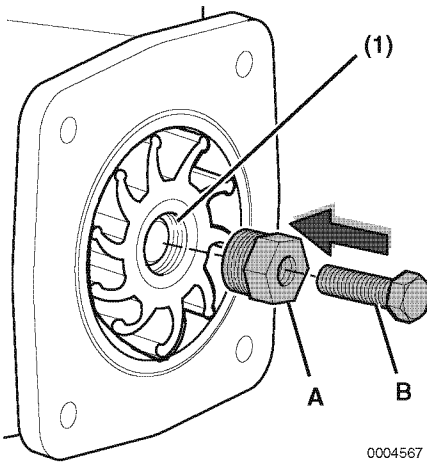
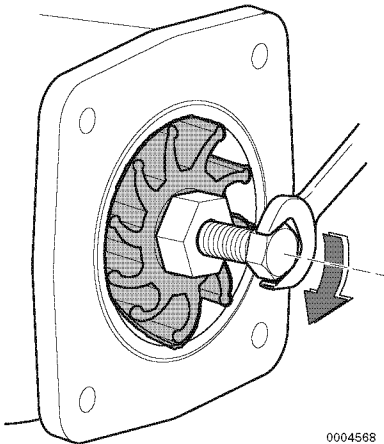

Figure 17
Figure 18
Note: When replacing a used impeller with a new one, the impeller must have an M18x1.5 thread (Figure 17, (1)). Turn the M18 screw side of the impeller to the cover side and install (Figure 18).